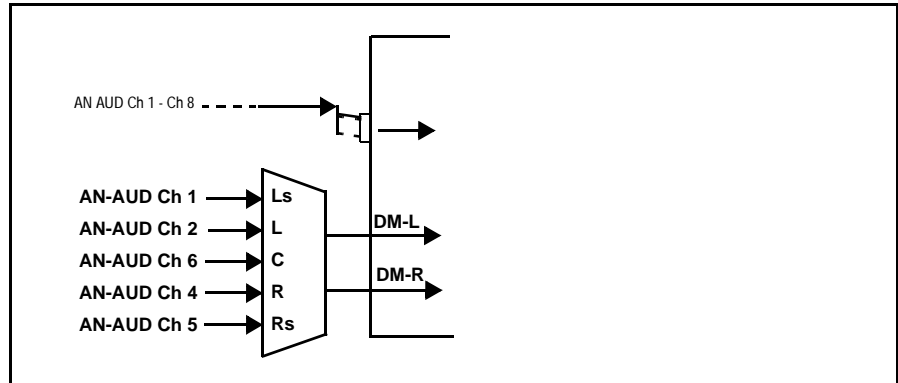

Figure 1-2 Audio Mixing Functional Block Diagram with Example Sources
(See Figure 1-2.) The Audio Down Mixer function provides for the selection of any five analog audio channel sources serving as Left (L), Right (R), Center (C), Left Surround (Ls), and Right Surround (Rs) individual signals to be multiplexed into a stereo pair (Down Mix Left (DM-L) and Down Mix Right (DM-R)). The resulting stereo pair DM-L and DM-R can in turn be routed and processed just like any of the other audio sources described earlier.